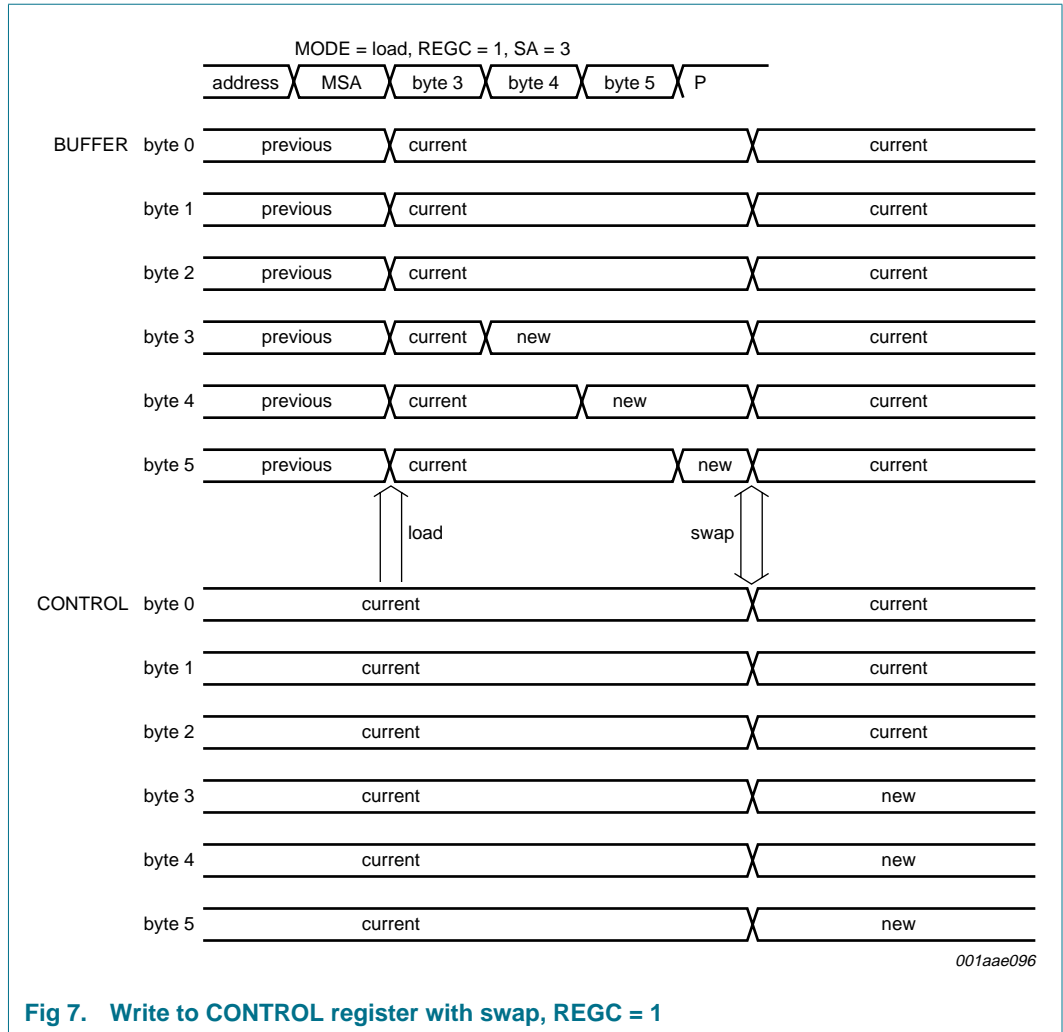

Fig 7. Write to CONTROL register with swap, REGC = 1
Controlled by a state machine, the BUFFER data will be loaded into the CONTROL register for new settings. However, at the same time the CONTROL data is loaded into the BUFFER register. This register swap action allows a fast return to the previous setting because the previous data remains available in the BUFFER register (see Figure 6 and Figure 7).
- With REGC = 1, the BUFFER register is loaded with data from the CONTROL register first. This way, not written BUFFER data equals the CONTROL data. Since the CONTROL register contains the current tuner setting with REGC = 1, the current tuner setting is default for the new setting. When a tuning MODE action is defined with REGC = 1, the tuner will keep its current settings (CONTROL = current) for all data that is not newly written during the transmission (see Figure 7).